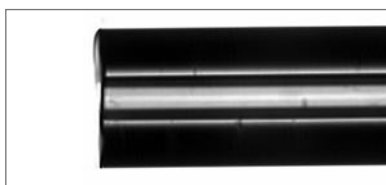

FIGURE 12 Typical cleave. Polyimide coating was removed after cleaving for clarity of image.
3. Pull gently on the tubing along its axis; it should easily separate at the point of contact. If it does not, repeat the procedure with a little more force. A typical cleave of 360 μm OD, 75 μm ID fused-silica tubing is shown in Figure 12. Residual surface irregularity is on average less than or equal to 10 μm .